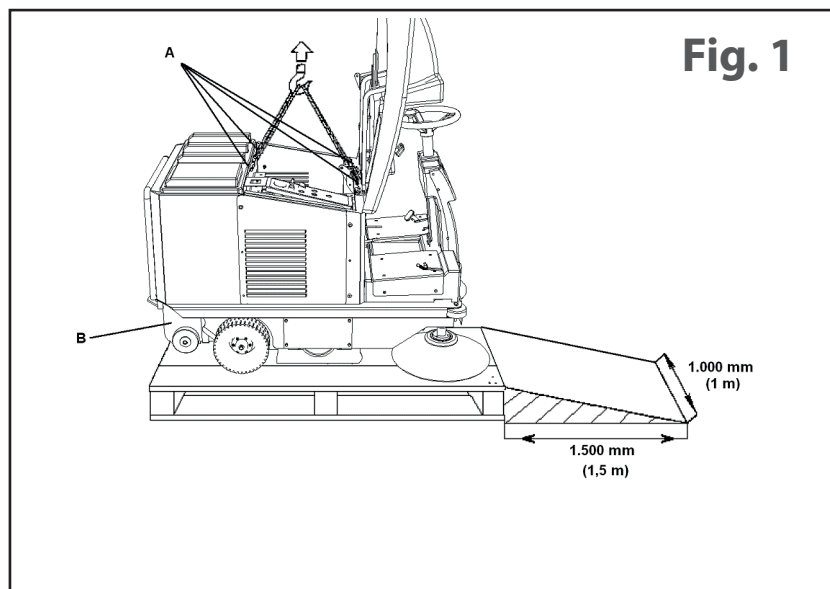

Fig. 1
1. Take a hook and 4 tie-rods of suitable lifting capacity for the weight of the machine (shown on the CE plate). Lift the motor bonnet and secure the four eyebolts or hooks in the threaded housings (the lifting hooks are inside the collection bin **Part. B FIG. 1** together with the side brushes and instruction manuals); secure all four straps to their respective lifting hooks **Part. A Fig. 1** and with the aid of a fork lift truck or bridge crane (suitable for weight of the machine), lift this off the pallet and rest it on the floor very slowly.